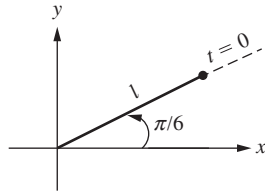

Figure P6.2 Rotating one-link robot starting at $\theta = 30^\circ$.
- 6-2.** The tip of a one-link robot is located at $\theta = \pi/6$ rad at time $t = 0$ s, as shown in Fig. P6.2. It takes 2 s for the robot to move from $\theta = \pi/6$ rad to $\theta = \pi/6 + 2\pi$ rad. If $l = 10$ in., plot the x - and y -components as a function of time. Also find the amplitude, frequency, period, phase angle, and time shift.